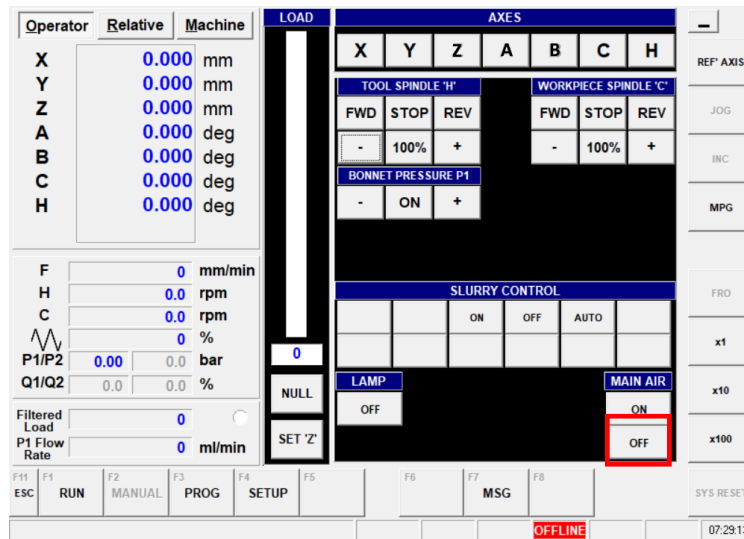

Figure 25 - Compressed air supply OFF
1. Switching off the compressed air (Main Air) supply to the machine, is activated from the “Manual” menu in the Zeeko GUI. This is done by pressing the “Manual button” from the main screen and then pressing the OFF button for the main air. See (Figure 25 - Compressed air supply OFF).